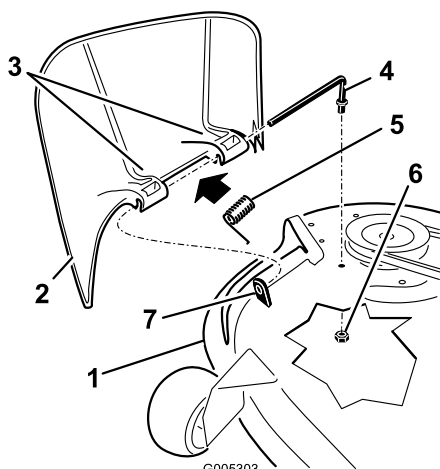

Figure 46
1. Locate items shown in Figure 46.
2. Remove the nut (3/8 inch) from the rod under the mower (Figure 46).
3. Slide the rod out of the short stand-off, spring, and grass deflector (Figure 46). Remove the damaged or worn grass deflector.
4. Replace the grass deflector (Figure 46).
6. Place the spring on the rod, with end wires down, and between the grass deflector brackets. Slide rod through second grass deflector bracket (Figure 46).
7. Insert rod at front of grass deflector into short stand-off on deck. Secure rear end of rod into the mower with a nut (3/8 inch) (Figure 46).